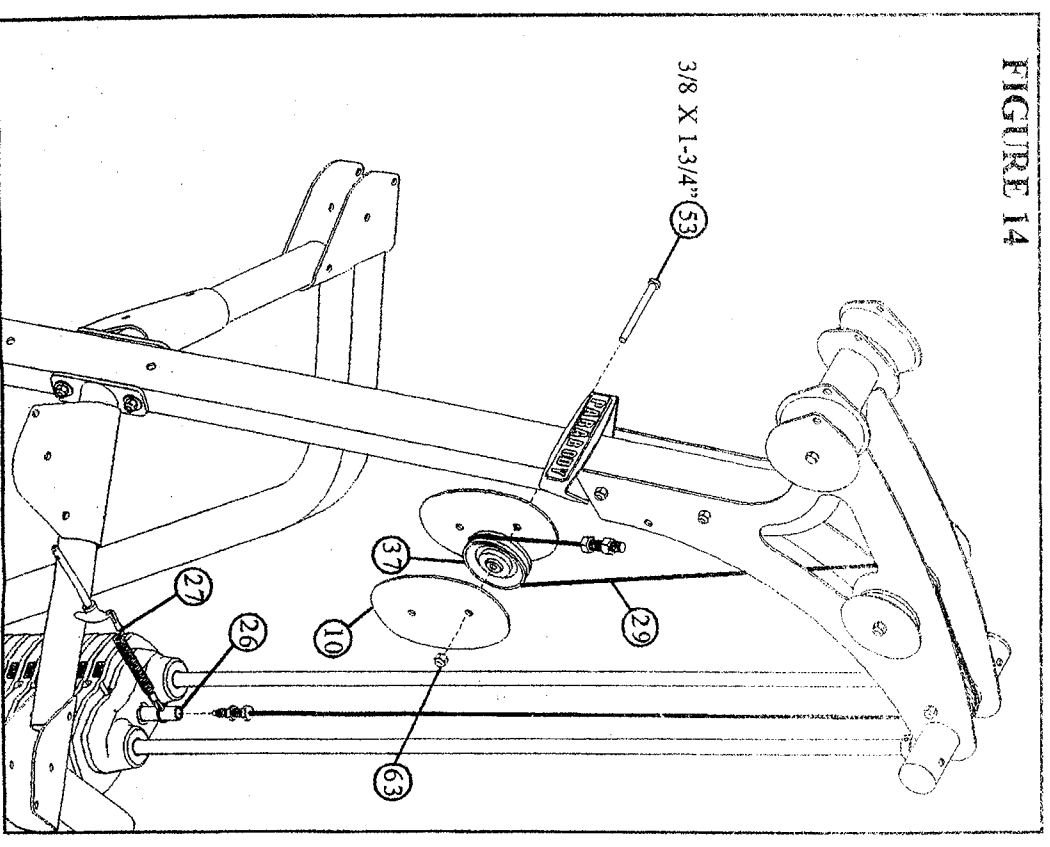

FIGURE 14
- Assemble the WEIGHT STACK PIN (27) to the WEIGHT STACK SHAFT (26) as shown in FIGURE 14.
- Screw the long threaded end of the WEIGHT STACK CABLE (29) into the end of the WEIGHT PLATE SHAFT (26). See FIGURE 14.
- Route the WEIGHT STACK CABLE (29) around the pulleys in the BOOM PLATES (14 & 15) as shown in FIGURE 14. (NOTE: Make sure the cable runs in the grooves of the pulleys.)
- Assemble two PULLEY PLATES (10) around one 3-1/2" PULLEY (37) using one 3/8 X 1-3/4" BOLT (53) and one 3/8" LOCK NUT (63) as shown in FIGURE 14. (Note: Loop the CABLE around the PULLEY prior to assembling the PULLEY PLATES.)